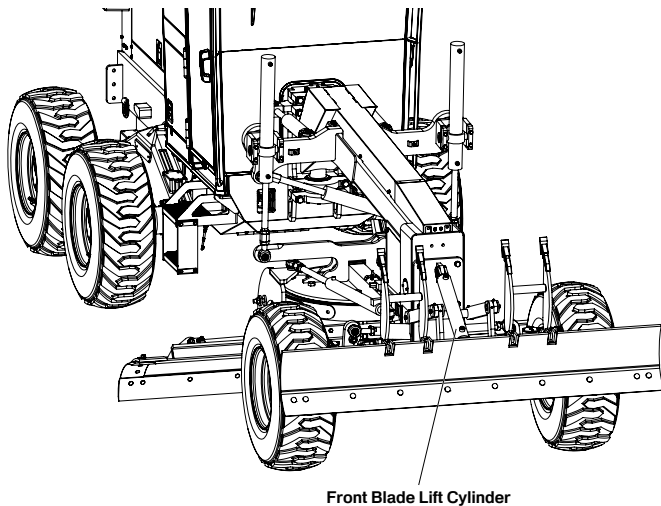

Figure 5-40. Front Blade
2. Thoroughly clean wheel lean cylinder (**Figure 5-40**), especially areas surrounding hydraulic hoses and fittings.
7. While supporting the wheel lean cylinder (**Figure 5-40**), remove the jam nut from the rod-side of the cylinder.
1. Thoroughly clean the scarifier lift cylinder (**Figure 5-40,1**), especially in the area surrounding the hydraulic hoses and fittings.